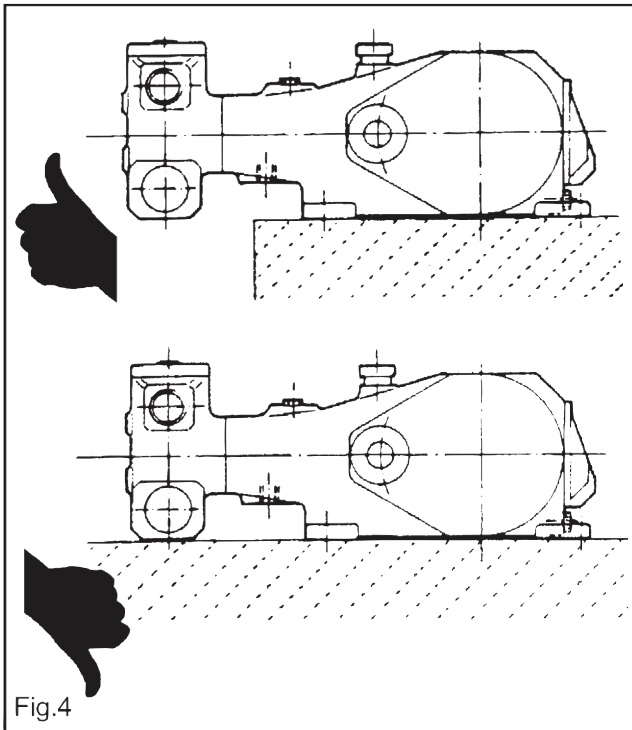

Fig.4
**On no account should the pump be installed in such a way its fluid end rests on the base where the pump is mounted. The fluid end should be left free and not subjected to any force (Fig. 4).**